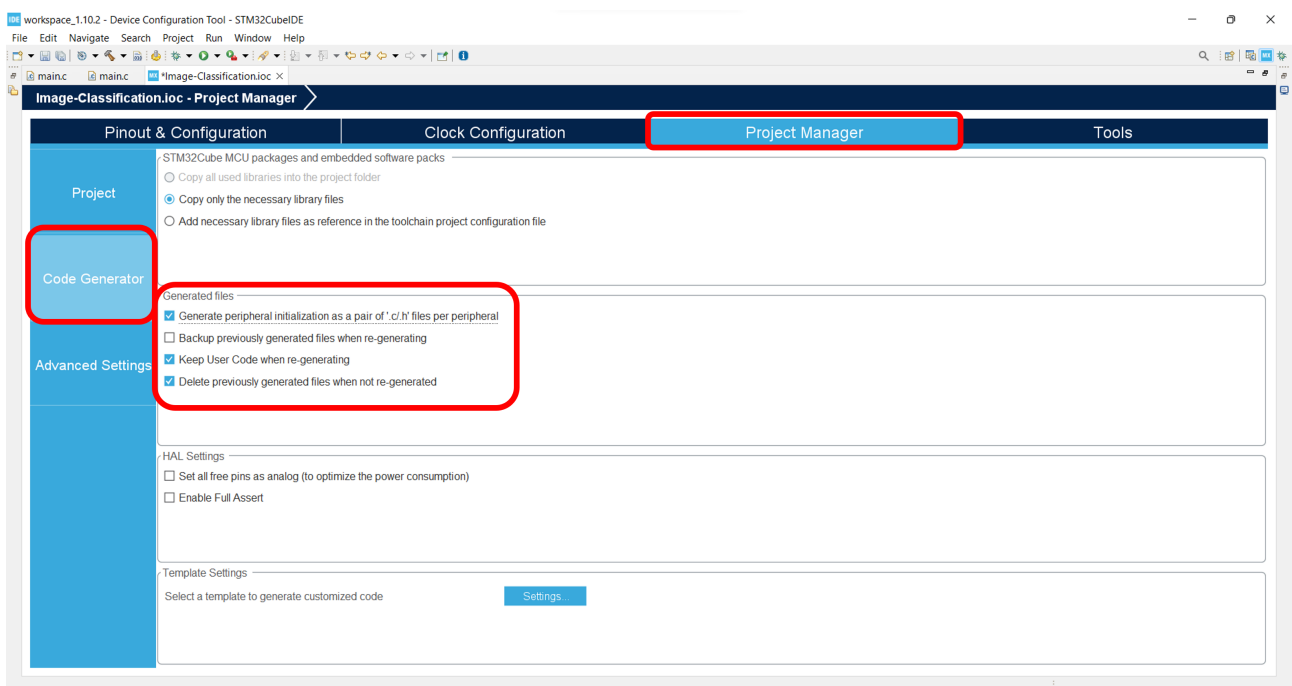

Figure 7: Project Manager configuration for separating the peripherals and main function.
6. In order to generate a clean `main.c` file, it is recommended to generate separate source and header files for the peripherals and main file. This can be done via the *Project Manager*, as shown in Figure 7.